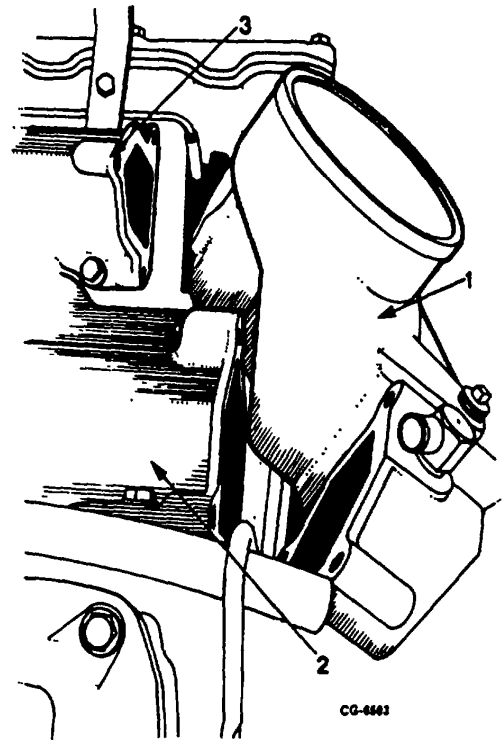

Figure 23. Removing Intake Manifold Crossover
5. Remove six manifold crossover mounting bolts and remove crossover from intake manifold (Figure 23).